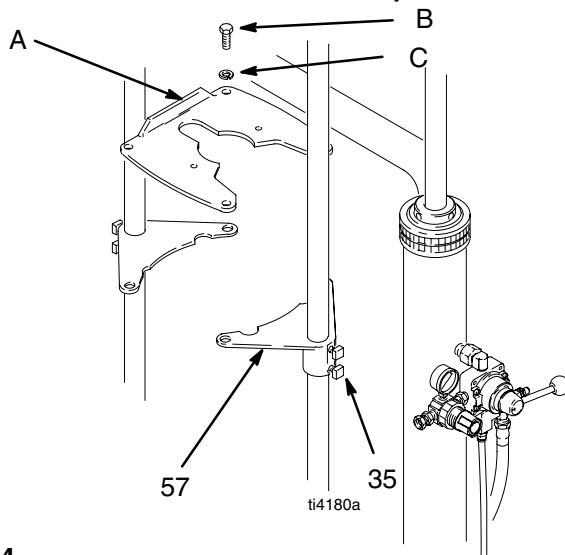

Fig. 4
1. Position the mounting brackets (57) so that the top of the pump will clear the support beam (3).
2. *For President, Monark Check-Mate 200, and Fire-Ball Pumps only*, install the mounting plate (A) onto the mounting brackets (57) using four screws (B) and lockwashers (C). See Fig. 4. Note that the plate is oriented differently for the President and Fire-Ball 425 than for the Monark and Fire-Ball 300.